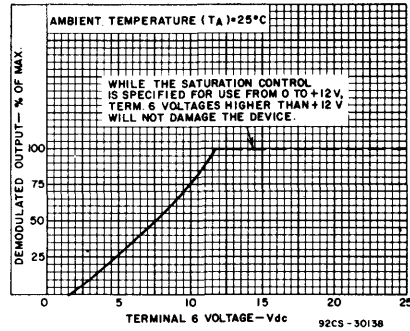

Fig. 3—Saturation control characteristic.
* See Fig. 3 for saturation control characteristic.